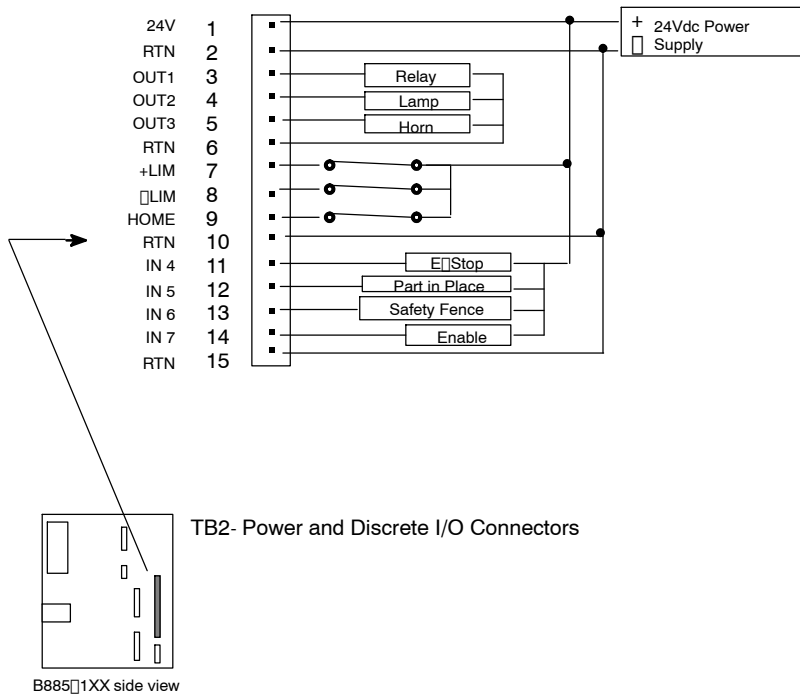

Figure 8 TB2 Typical Wiring
- Step 2** Wire the 24 Vdc power supply output to the TB2 connector (pins 1 and 2) of the B885□1XX. Refer to Figure 8.